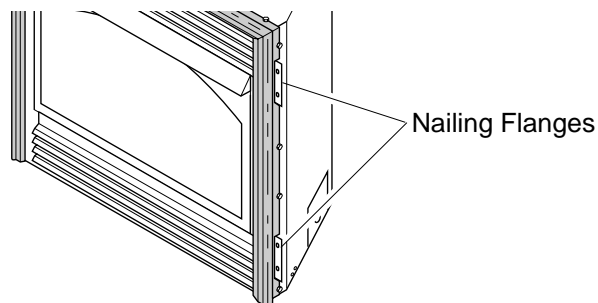

Figure 10 - Location of Nailing Flanges
7. Break off nailing flanges (see Figure 10) with hammer or pliers.